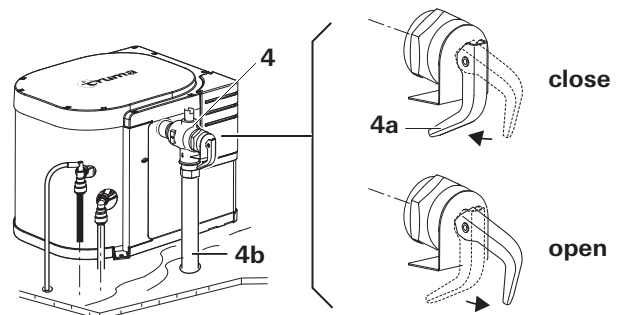

Fig. 2a
Check that the drain valve (3) and the P&T safety valve (Fig. 2a - 4) in the cold water intake are closed.
- Test lever (Fig. 2a - 4a) of the pressure relief valve (4) must be in the "close" position.
- Do not place a plug or reducing coupling in the discharge pipe (Fig. 2a - 4b) of the P&T safety valve.